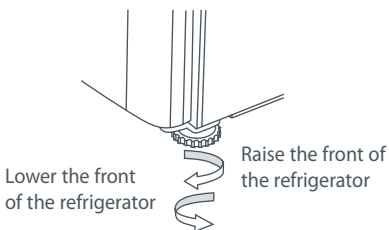

Fig.10 Refrigerator feet
- C** Adjust the front feet down until the refrigerator is leaning backward with the front approximately  $\frac{3}{8}$ " (10 mm) higher than the back. This will ensure a good door closing action (refer to Fig.10).